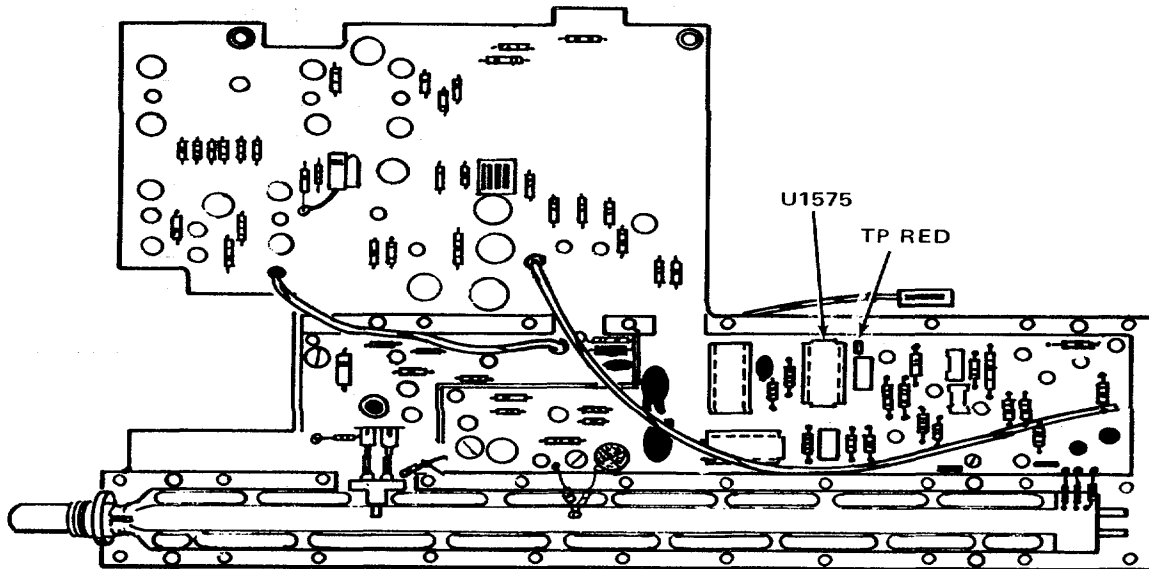

Figure 4-6. Main Board Test Points.
17. Move the test lead to connector P65 Pin 6 (see Fig. 4-6) and check that the voltmeter reads  $+100\text{ V}$  ( $+20\text{ V}, -5\text{ V}$ ).
(b). Adjust-INTENSITY LIMIT (R4222) for 100 mVdc reading at test point TP4243 to gnd (option 1: 60 mV). The adjustment is made through the hole near Q6427 on the power supply board (see Fig. 4-6).
Turn the instrument POWER off. Turn the instrument upside down and remove the shield that covers the pulser/sampler circuitry (remove 12 screws). Remove U1575 from its socket. In the following steps, instructions are given on how to provide an external trigger to the 1502 (see Fig. 4-6).